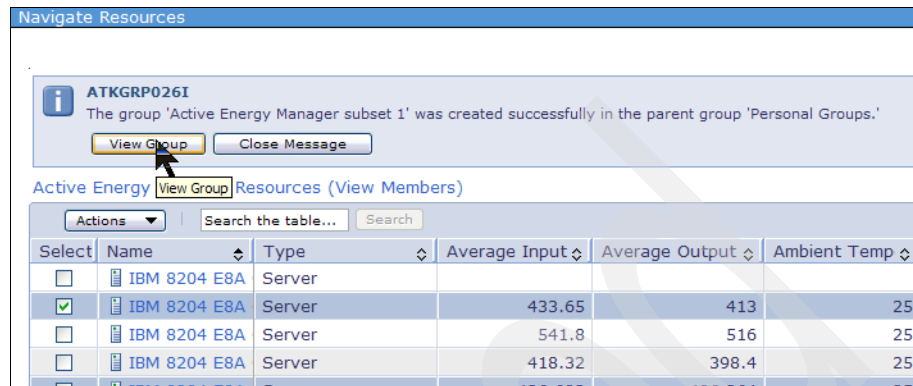

Figure 6-18 Creating a resource group - 5
- You are returned to the Navigate Resources display (Figure 6-18). Click **View Group** to view summary status information for the members of your group.